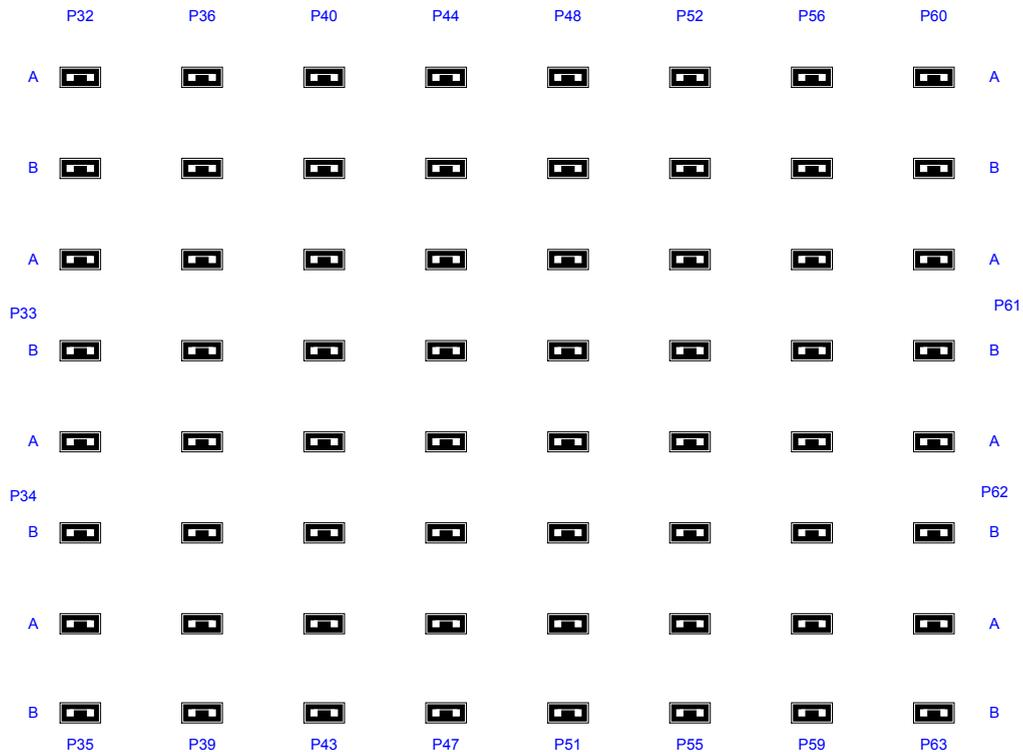

FIGURE 2-16. Main Board Assembly – Port 32-63 Termination Shunt Arrangement
6. The right array supports data ports 32-63 and is shown in greater detail in Figure 2-16. These shunts are arranged in the same format as the left array.